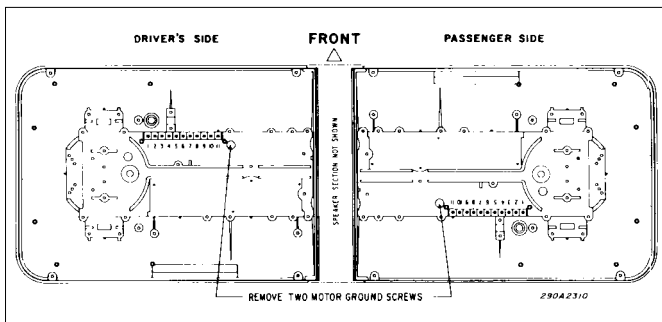

Figure 2.
3. Remove each inboard reflector assembly motor ground screw located on each side of the light bar (see figure 2). (These screws also secure the adjustable base.)